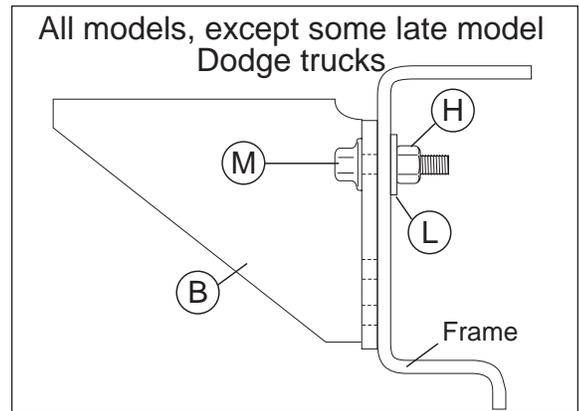

Figure 10
3. For all vehicles other than Dodges, loosely install a washer head frame bolt (M), oversized flat washer (L), and lock nut (H) (Figure 10).